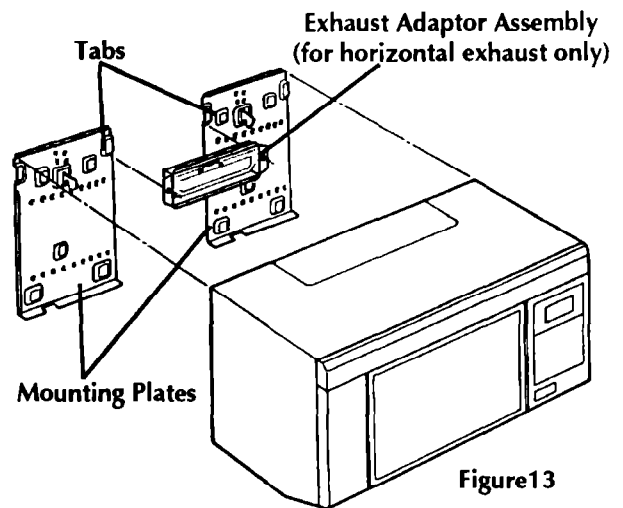

Figure13
5. If horizontal exhaust is used, attach the exhaust adaptor assembly to each of the mounting plates by aligning the holes on the assembly with the tabs on the plates, holding the assembly in place and bending the tabs to secure the assembly to the plates (Fig. 13).